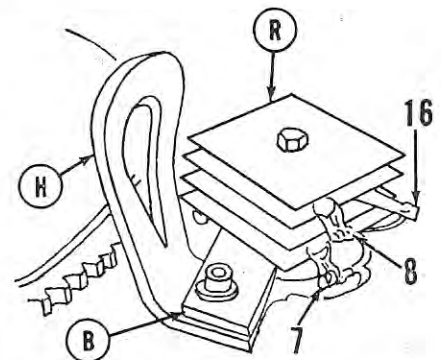

Fig. H30 — Alternator rectifier on late models.
Disconnect the three leads from the rectifier. NOTE: Early motors have soldered connections. Use only a soldering iron and the minimum amount of heat when connecting or disconnecting rectifier leads. Also, use soft, rosin core, electrical solder when reconnecting. Do not use acid core solder. With a file, remove paint on rectifier mounting bracket (B—Fig. H30) until bright metal shows. Mentally designate the bracket (B) and center terminal (16) as DC terminals and the upper (8) and lower (7) terminals as AC terminals.